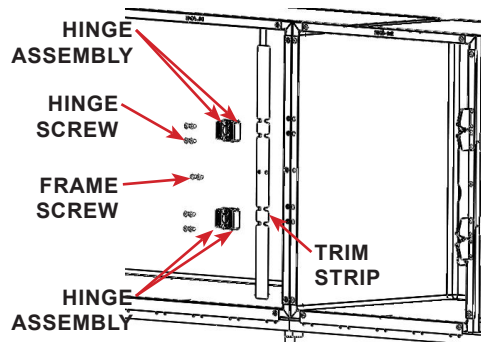

FIGURE 2.24 - Trim Strip Installation
STEP 14: Install the trim strip underneath the hinge assemblies and thread the center frame screws, do NOT fully tighten. See FIGURE 2.24